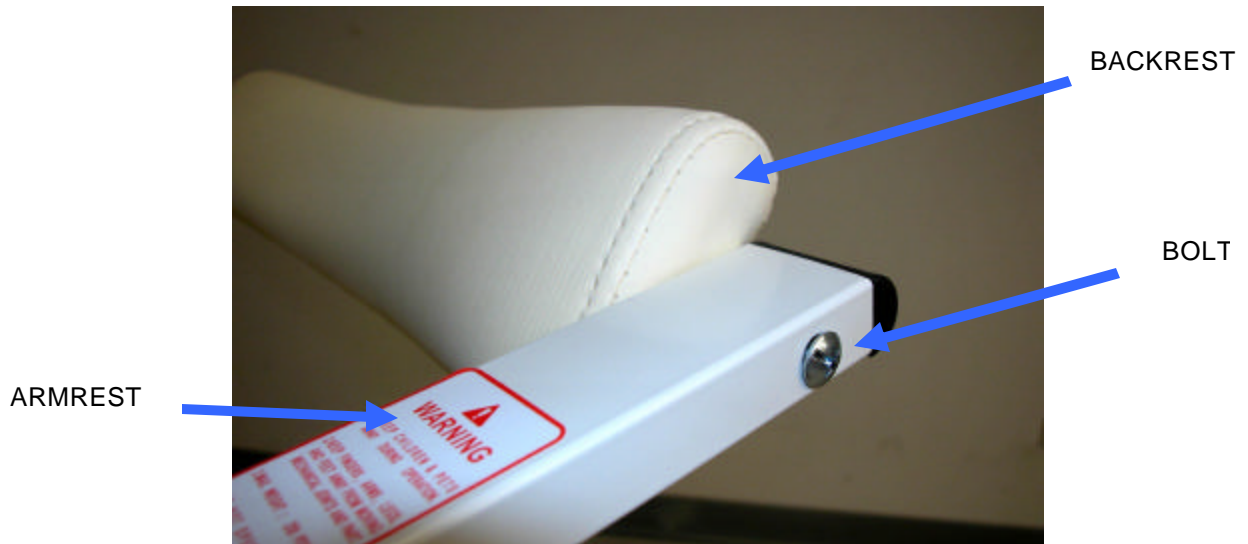

Figure M-2. Armrest and Backrest Mounting
- e. Remove the bolt and washer that hold the armrest to the backrest. See Figure M-2.
- b. Align and install the backrest bolt with the armrest. See Figure M-2.